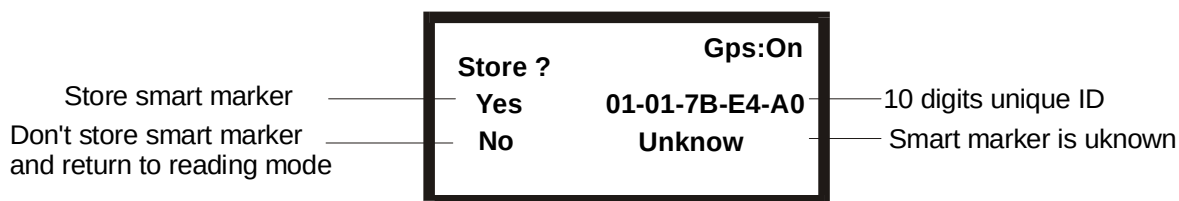

Fig. 17
- If device recognizes smart marker, you can store smart marker together with 10 digits unique identification number ID to Smart Marker Locator memory (Fig. 17).